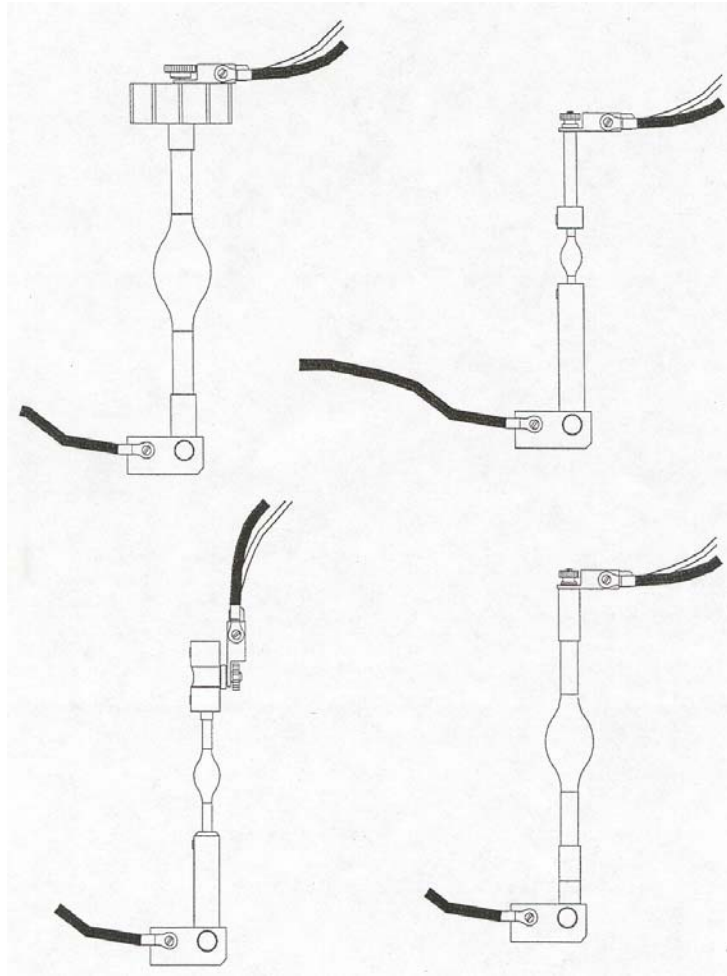

Figure 4
- Connect the sensor block assembly on the top hanging lead to the top adapter, using the hardware supplied with the adapter. Refer to Figure 4 for typical connection information.